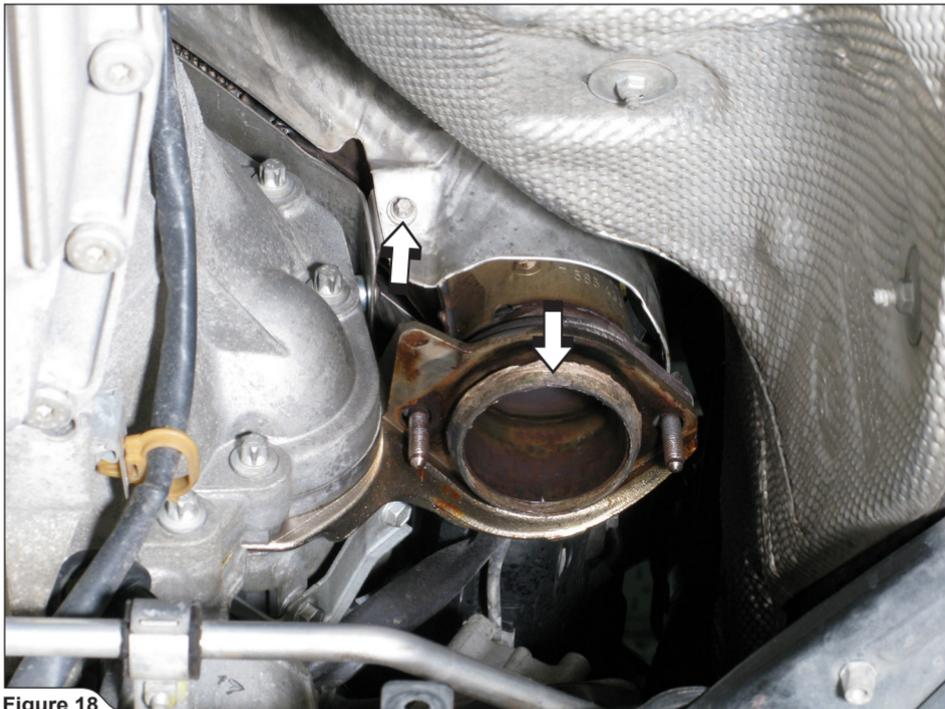

Figure 18
18. **For optional Down Pipes only:** unscrew marked bolts on both side of the engine and remove the lower heat shield (**Figure 18**).
19. Remove marked graphite conical gasket from down pipe on both sides of the engine (**Figure 18**).